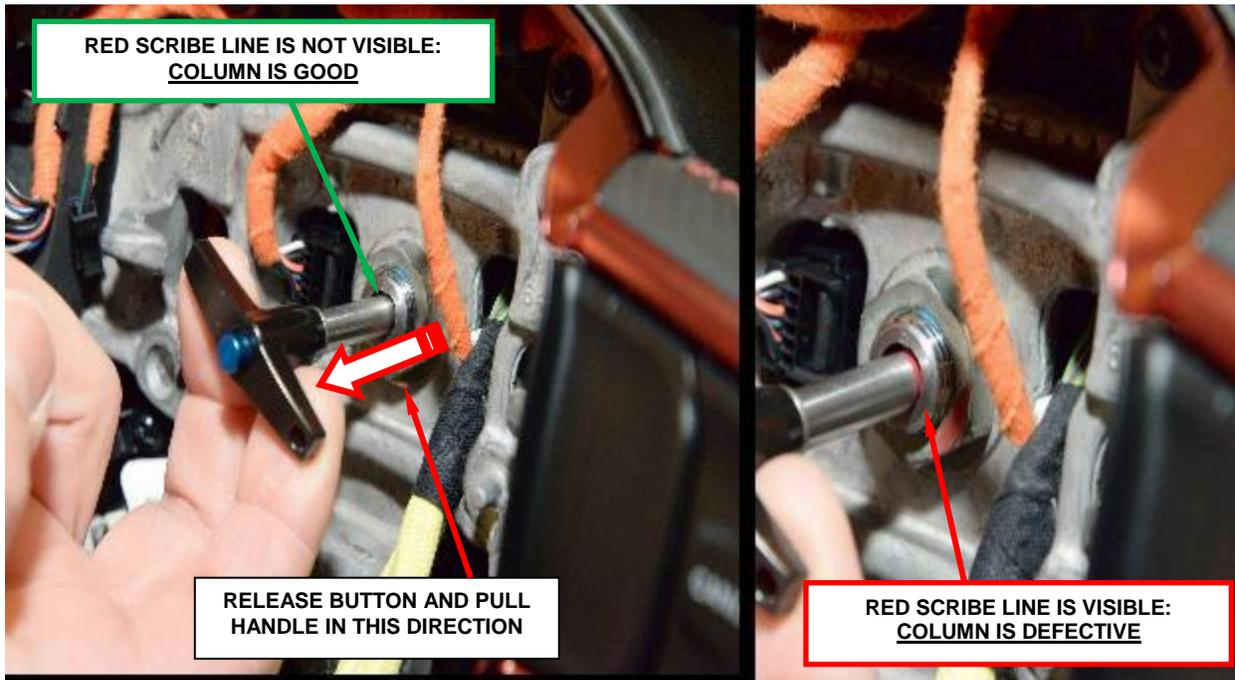

Figure 6 – Inspect Steering Column Stub Shaft
13. Insert the tool into the steering column stub shaft until tool bottoms out in steering column (Figure 6).